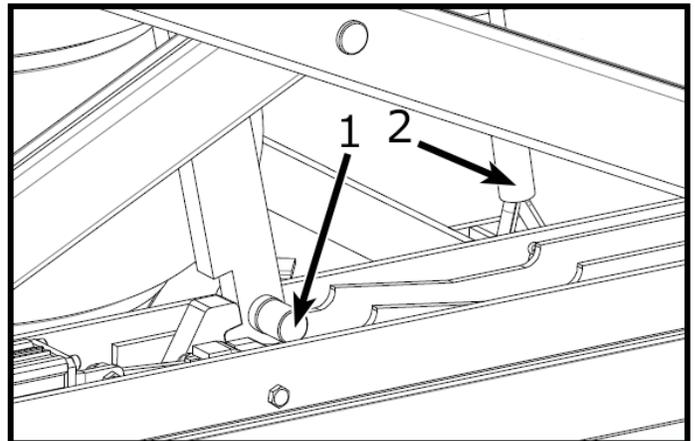

Fig. 12
- The mechanical safety pin (1/Fig. 12) prevents the lift from falling down accidentally in case that the pneumatic system is broken or failed. It can automatically fit into one of two positions on the safety rack to ensure the lift stops at the required height. When the lift is raised, it also prevents whole weight from loading on the air spring.
- Additional safety cable (2/Fig. 12) prevents unnecessary stress when the maximum height is reached.